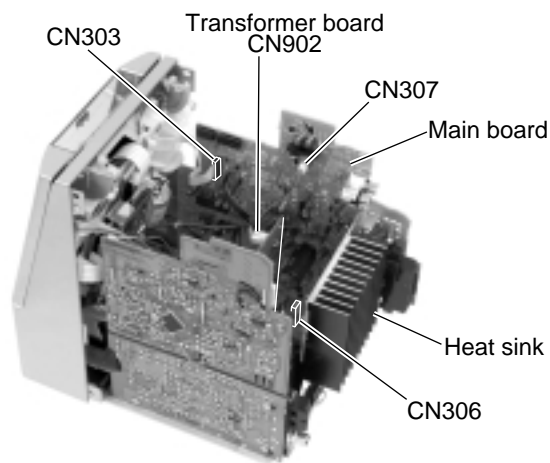

Fig.8
■ Removing the main board / the heat sink (See Fig.8 to 10)